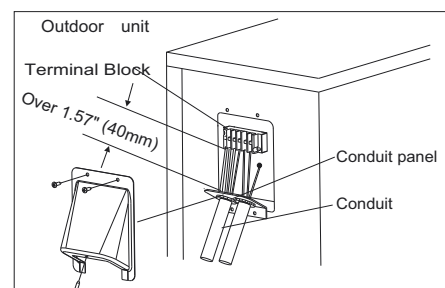

Fig. 35 – Field Wiring
5. Connect the conduit to the conduit panel (see Fig. 35).